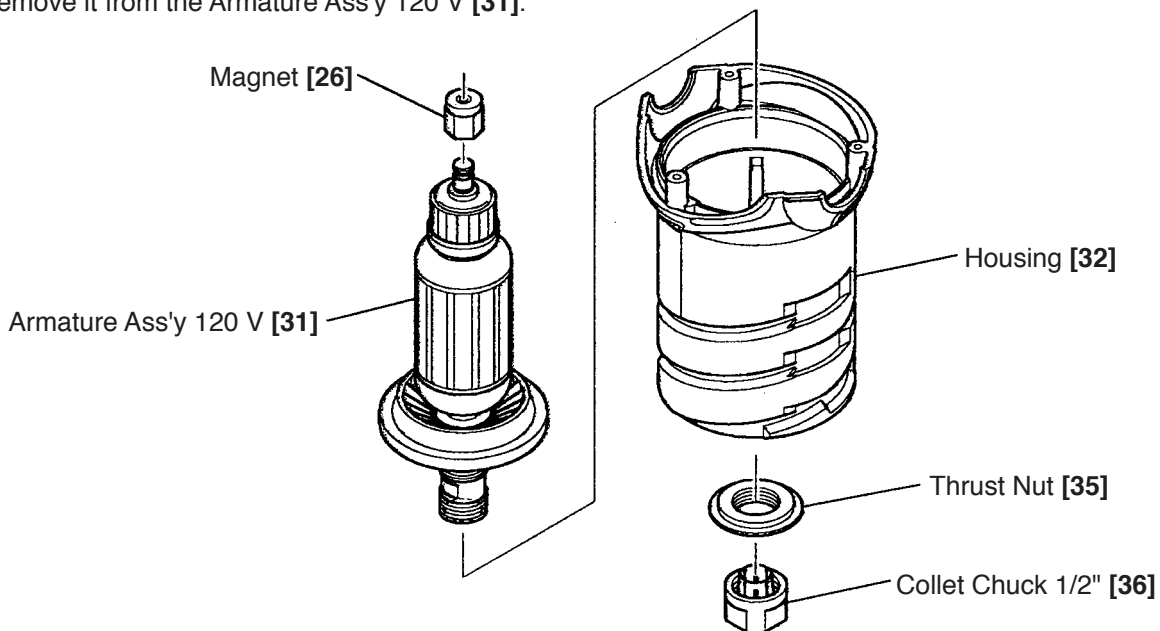

Fig. 7
(4) Disassembly of the Armature Ass'y 120 V [31] (Fig. 7)